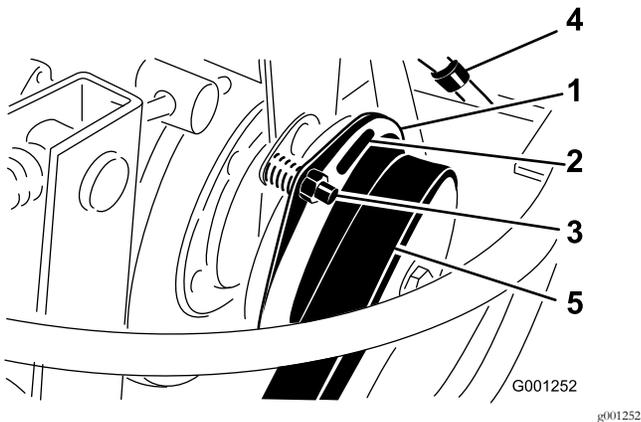

Figure 76
3. Adjust the air gap so that a 0.4 mm (0.015 inch) feeler gauge slides in between the clutch lining and friction plate with light pressure (Figure 76).
Note: You can decrease the gap by turning the adjusting nut clockwise (Figure 76). The maximum service gap is 0.7 mm (0.030 inch). Adjust all 3 air gaps.